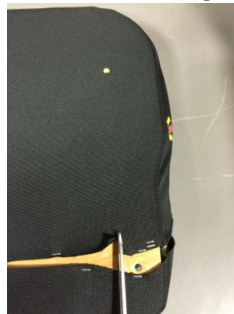
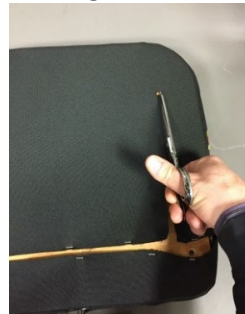

Figure 8
Figure 9
4. On the underside of the cushion, remove the four (4) or eight (8) screws that attach the seat cushion assembly to the flip-up seat pan. Retain screws for reuse.
5. Look at bottom of the seat cover to see if slits exist. If not, cut both sides of the bottom of the cover panel, beginning at the rear edge of the main flap forward to the mount position hole near the front. This will make it easier to un-cover and re-cover the seat. See Figure 8 and Figure 9 for views of seat cushion bottom.